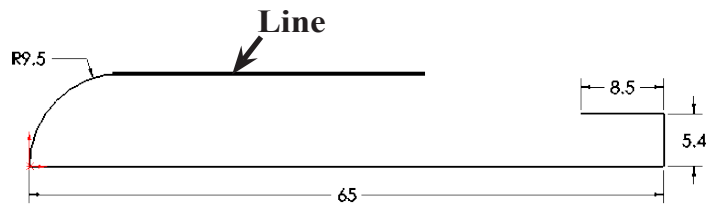

Fig. 6
Step 1. Click **Line**  (L) on the Sketch toolbar.
Step 2. Starting from the end of the arc, draw a horizontal line across the sketch as shown in **Fig. 6**. Keep the line away from the short horizontal line.